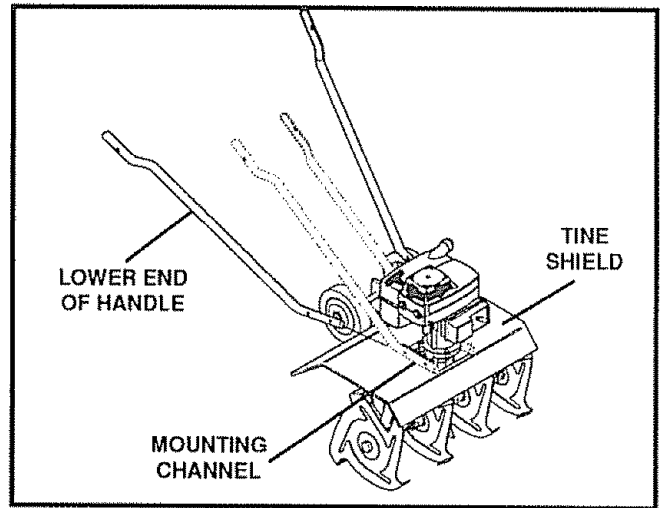
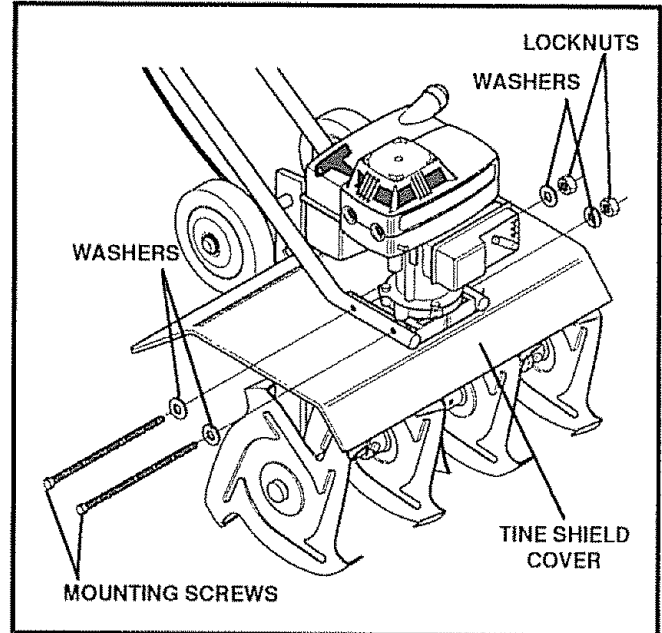

FIG. 3
FIG. 4
- Insert the right side lower handle section into the mounting channel between the tine shield and the engine casting (see Fig 3). Push the mounting screws through the tine shield, handle and approximately half way into the engine casting. Be sure a washer is on each mounting screw (see Fig. 4). It may be necessary to rotate the lower handle to align the mounting holes. To allow proper mounting of the upper handle section be sure the flat portion of the lower handle is facing inward.
- Position the left side lower handle section into the mounting channel between the tine shield and the engine casting. Align the holes in the handle with the engine casting and the tine shield, then push the mounting screws completely through the engine casting, handle and tine shield. Install a washer onto the mounting screws and secure the lower handle sections using two locknuts previously removed (see Fig. 4). Finger tighten the locknuts at this time